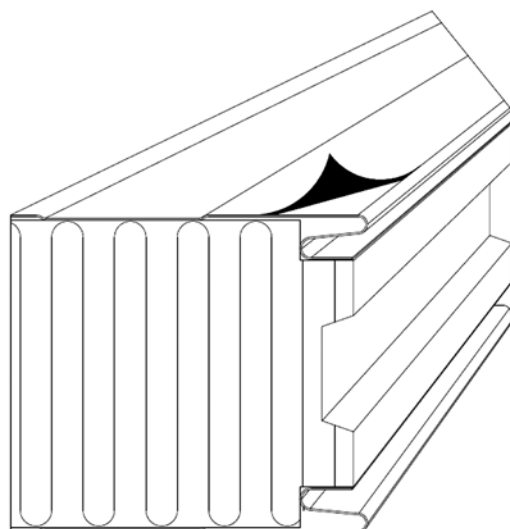

Fig. 16. Peel off protective film from internal facing of panels.
- The Buyer is obliged to remove the protective film not later than three (3) months from the delivery date given in Sales Order Confirmation. It is required in order to avoid the consequences of film vulcanization, which happens to the film as a result of exposure to weather conditions. The consequences of vulcanization are: colour change of protective film, difficulties with film removal, tearing of the film during its removal, presence of glue residue or even damages to the coating of panel facing.
- Remove protective film from internal cladding of panels, where such elements as flanges, dome skylights or water drains are installed – see fig. 16.